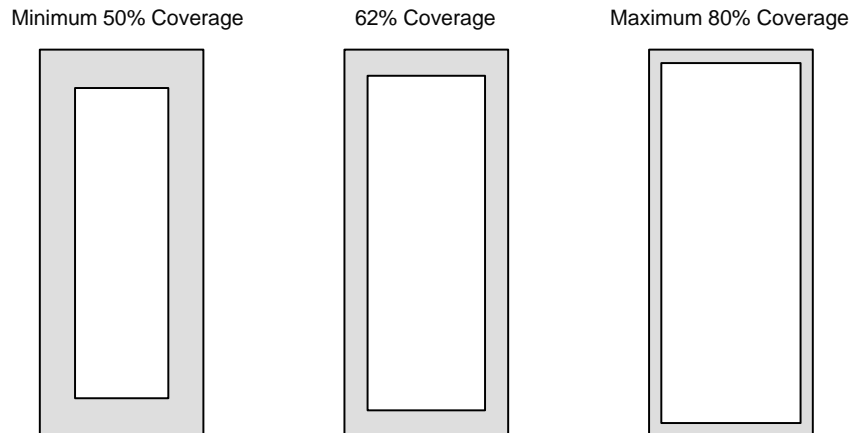

Figure 8. Solder Paste Application on Pins
- The aperture opening for the signal pads should be between 50–80% of the SIP pad area as shown in Figure 8.